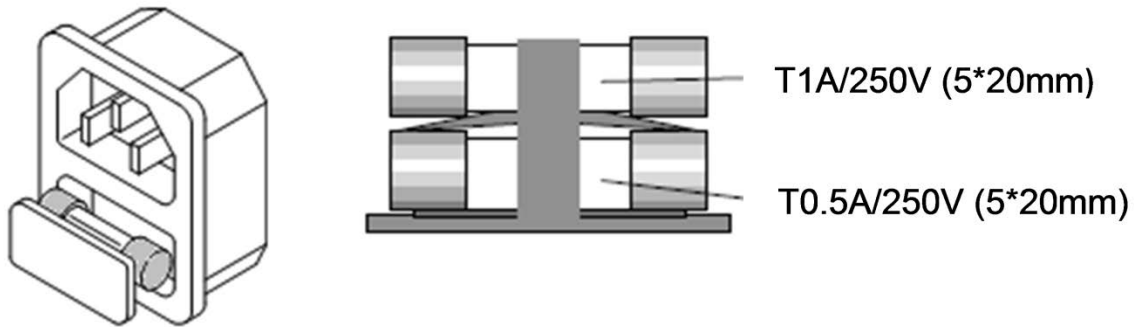

Figure 2: Fuse Holder Location
2. The AC line fuse is located below the AC line socket (see Figure 2). Use a small screwdriver to remove the fuse holder. Replace the failed fuse with the appropriate type and rating according to your mains voltage. (See Table 2)
Figure 2 shows pin assignments for the DSUB-15 connector when the remote controller option is fitted to the 44M01 mainframe. The remote controller allows the first 10 memory locations to be recalled. Set ups saved at these memory locations can include dynamic waveforms and the load ON state.